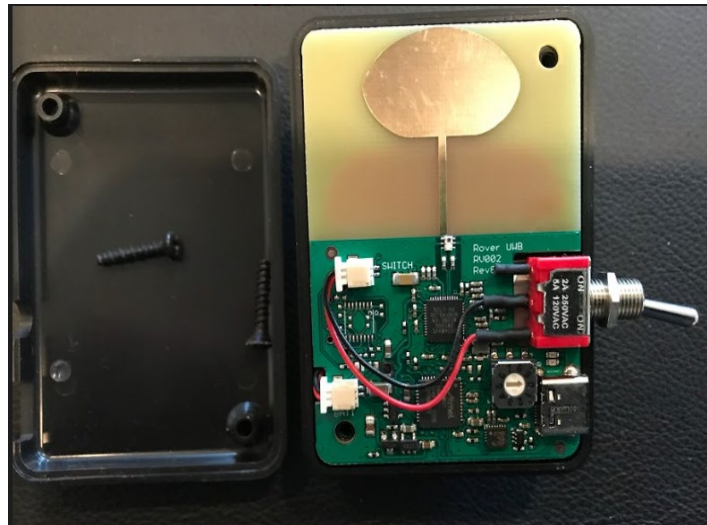

Figure 10 Opened Transmitter
- 5) Gently unplug the white toggle switch connector from the Transmitter board see figure 10.